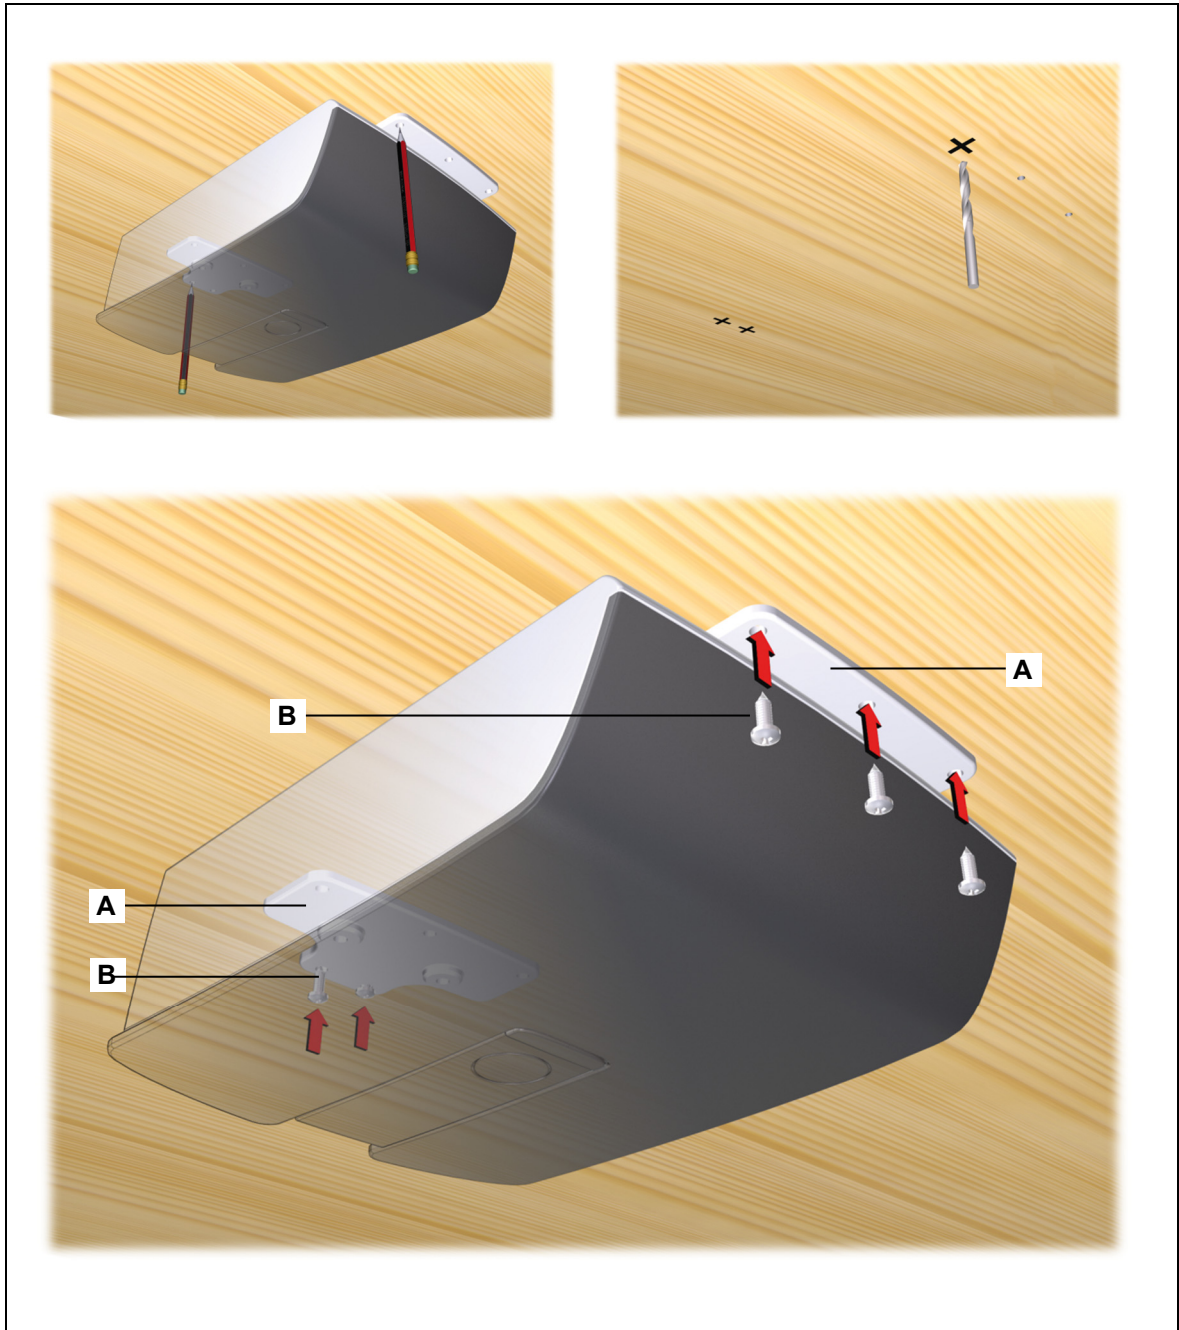

Figure 8 Mounting the HE-300 SMPS POWER SUPPLY to the end product
- 2 Tighten the screws on both mounting plates so the plates are firmly attached to the end product (as shown in Figure 8).